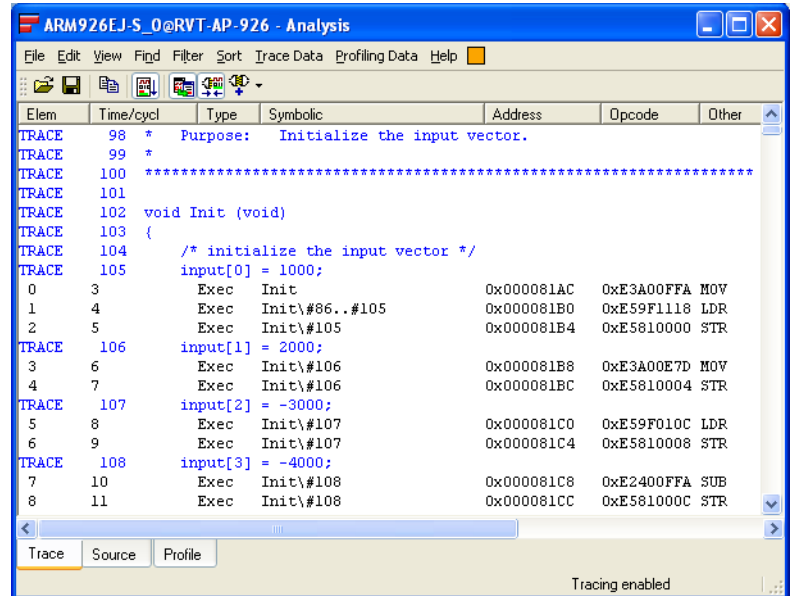

Figure 10-13 Interleaved source in the Trace view
1. Select **Interleaved Source** from the **Trace Data** menu in the Analysis window. The trace shows the interleaved source corresponding to the captured trace. Figure 10-13 shows an example: